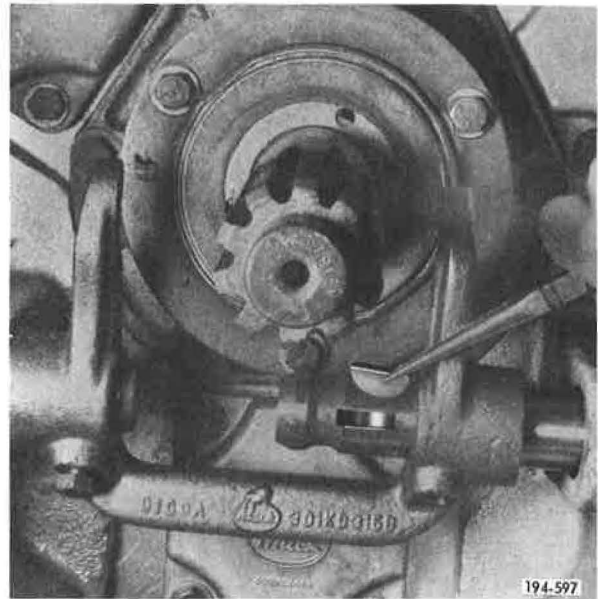

Figure 5-670. Removing Woodruff Key
4. Drive splined clutch release shaft inward, and remove Woodruff key. See **Figure 5-670**.